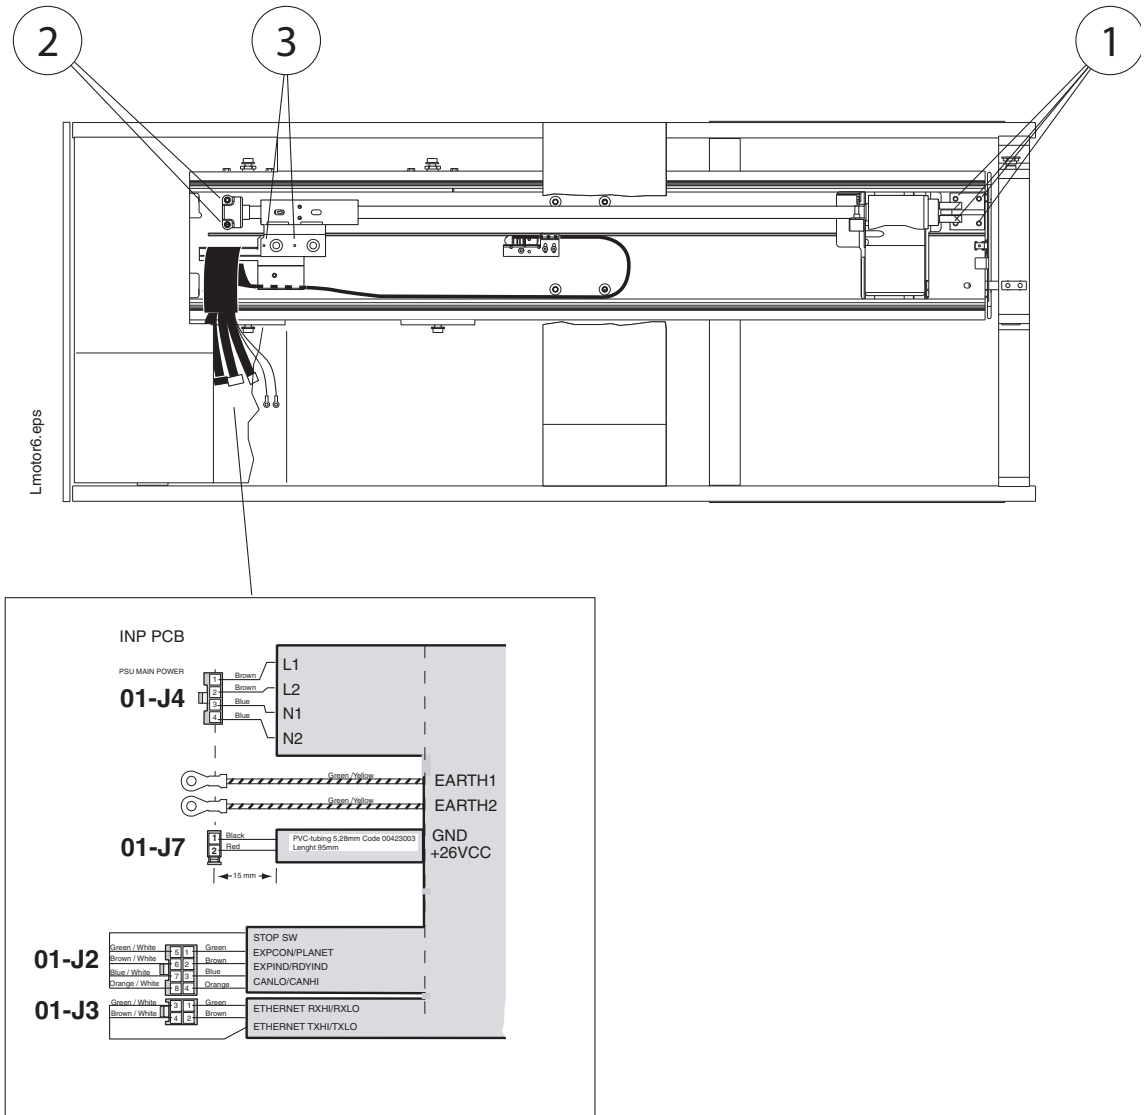

Figure 36
- 23) Measure the position of the lift nut. Rotate the new motor's lift nut to the same height with the old motor's lift nut. Unscrew the four M8x16 DIN 912 screws of the column motor mounting lug (Fig. 36, 1). Unscrew the two M6x35 DIN 912 screws of the motor absorber support (Fig. 36, 2). Remove the column motor from the telescopic column.
- 24) Detach the column cable guide from the lift nut by unscrewing the two M4x6 DIN 7984 screws (Fig. 36, 3).